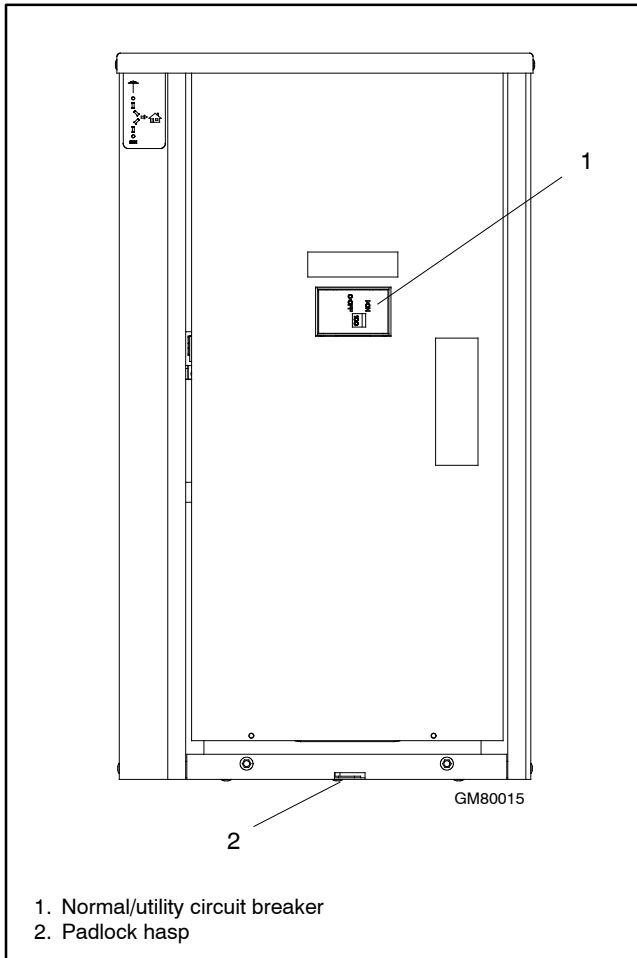

Figure 4-1 Service Entrance Model, Door Removed
4. To lock out the transfer switch, replace the outer door and attach a padlock to the hasp. See Figure 4-1 for the location of the hasp.